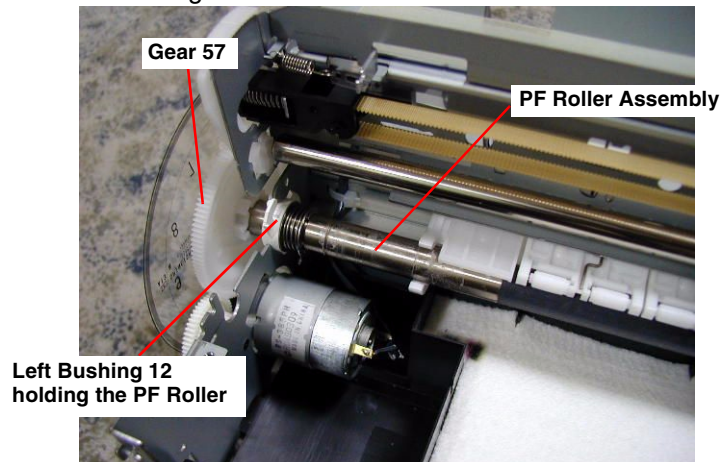

Figure 4-59. Setting the protrusion on Bushing 12
- 14) Release the fixed hook of the Left Bushing 12 holding the PF Roller Assembly and turn the bushing forward to align it with the cut in the Left Frame. Refer to Figure 4-59.